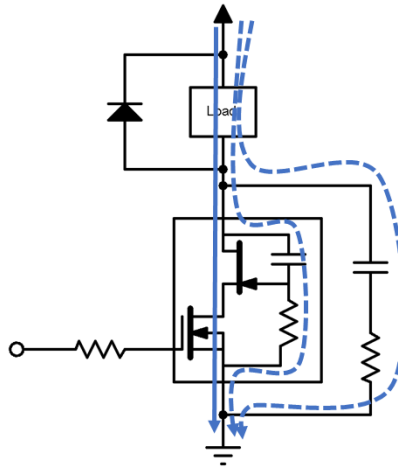
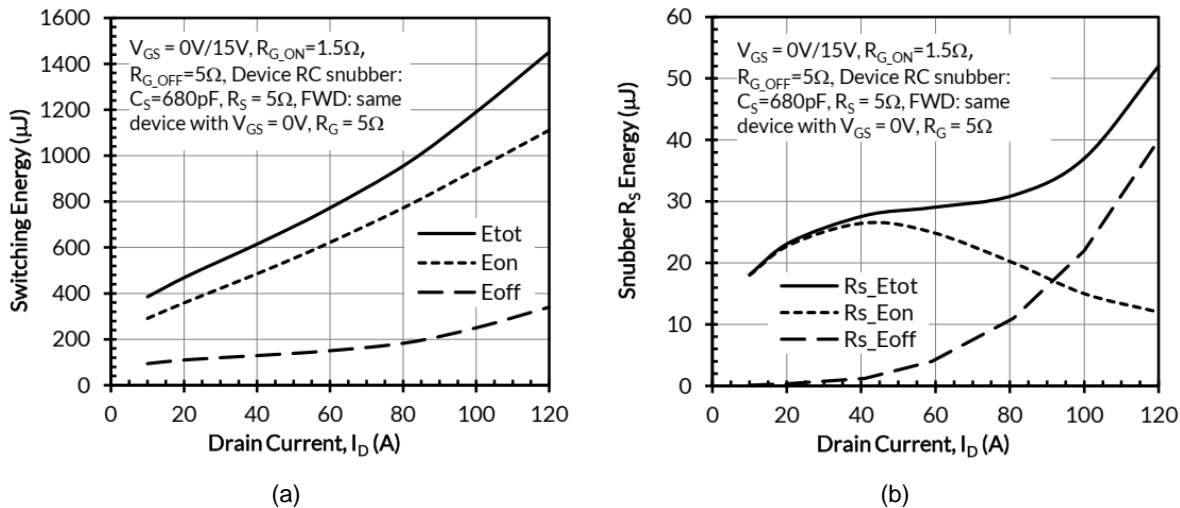
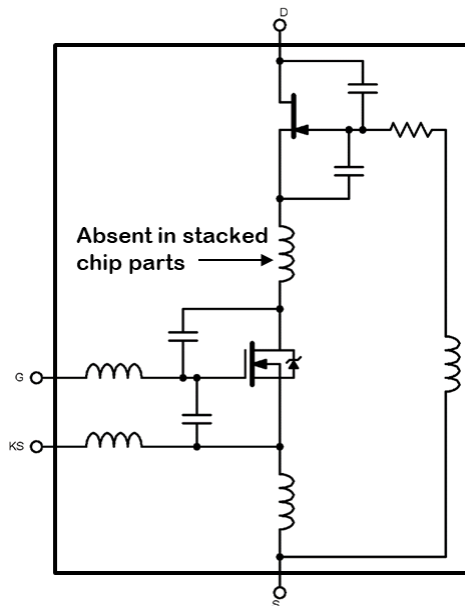

Figure 6 Cascode turn-off with snubber
Figure 8 (a) Switching energy versus current, and (b) snubber resistor energy versus current for UJ4SC075005L8S
Figure 10 Cascode including stray inductances and relevant capacitances
Most cascodes have lower turn-off versus turn-on switching energy, E_{off} versus E_{on} . This is evident in the switching energy versus current graph in datasheets, see Figure 8(a). The cascode inherent switching speed is mostly determined by the JFET capacitances and JFET on-chip gate resistance, which is set by design for competitive total switching loss $E_{total} = E_{off} + E_{on}$. Much of the effort in applying the cascode is to slow the turn-off switching to limit voltage overshoot and ringing. Here an understanding of the cascode capacitances is valuable. Figure 6 shows a cascode switching off with an inductive load, with the cascode output capacitance (equal to the JFET gate-drain capacitance) and on-chip JFET gate resistance depicted in the cascode along with the SiC JFET and Si MOSFET.
The solid arrow in Figure 6 depicts the current flowing through the inductive load and the cascode while the cascode is on. As the cascode switches off, it becomes resistive, and current diverts to the output capacitance and JFET gate resistance as the cascode drain-source voltage increases. Only load current charges the cascode output capacitance because of the lack of gate-drain capacitance; no current is forced through the cascode gate. This results in low gate charge and immunity from dV/dt induced (parasitic) turn-on, which are attractive features of the cascode. It creates however a challenge for speed control because gate current is not involved in charging the cascode output capacitance, and therefore adjusting the cascode gate resistance has no direct effect on the cascode switching voltage slew rate dV/dt . The gate resistance adjusts the switching speed of the cascode's MOSFET, so the switching current slew rate di/dt can be adjusted. (This is somewhat a simplified explanation because with high enough cascode gate resistance, the dV/dt can be regulated, but then the switching delay time would be excessive.) Because of the faster turn-off versus turn-on speed of the cascode, see Figure 8(a), a turn-off snubber is recommended for hard-switching, usually in the form of a resistor-capacitor (RC) snubber connected across drain and source. The cascode's fixed output capacitance is augmented with additional output capacitance plus damping resistance, both of which are adjustable based on the application requirements. Figure 6 depicts additional current diverted away from the cascode during turn-off, thus reducing dV/dt and di/dt of the cascode. In this way, the snubber compensates for the limited switching speed control provided by the cascode gate resistance.
Figure 8(a) shows the hard-switching loss versus current for the UJ4SC075005L8S cascode. Here you can see the significantly higher turn-on versus turn-off switching energy, which is typical of many cascode parts. Figure 8(b) shows the corresponding snubber resistor energy for this same part. Total snubber loss is 3 to 5% of the total hard-switching loss. Remember however that without the snubber, there is often excessive turn-off voltage overshoot and ringing. With the snubber, all waveforms are damped both at turn-on and turn-off: cascode V_{DS} , V_{GS} , and I_D . The snubber has proven to be the most efficient way to regulate the cascode switching. The total switching loss is lower with a snubber and less gate resistance versus no snubber and more gate resistance. This is true of both SiC JFET cascodes and many SiC MOSFETs.
Let us consider again the cascode in Figure 6 switching off with an inductive load, redrawn in Figure 10 but including stray inductances. As the cascode's MOSFET turns off, its resistance increases and so does the MOSFET drain-source voltage. In fact, unless the cascode gate resistance is unusually large, the cascode's MOSFET avalanches during turn-off, clamping the JFET gate-source voltage at -25 V. This is completely safe for the JFET because its gate-source avalanche voltage is well below -25 V. It is also safe for the MOSFET because it was designed to withstand repetitive avalanche at high currents, and the duration of the avalanche is short, so the energy is low. The load current diverts from the JFET and MOSFET channel and charges the output capacitance (and snubber capacitance) until the other device in the circuit freewheels the current.